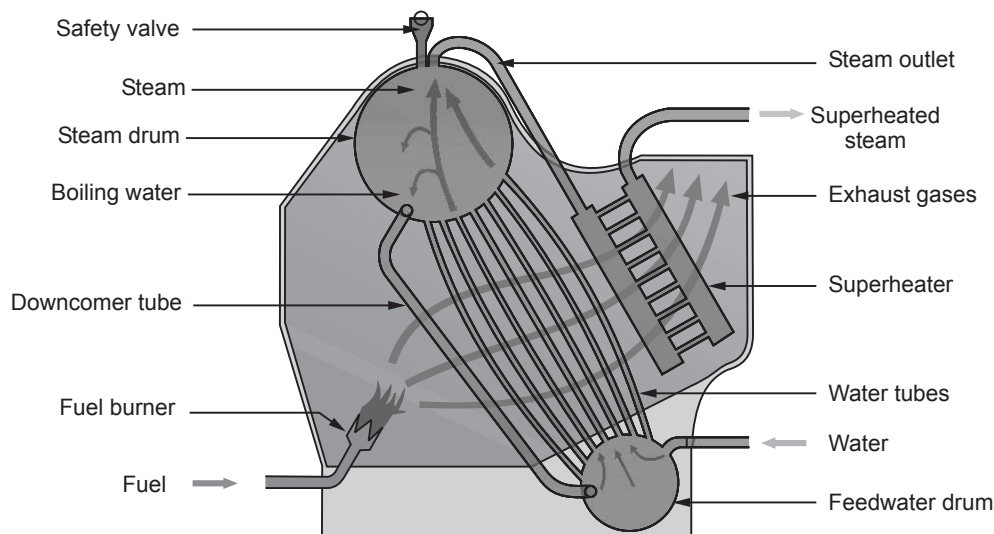

Fig. 2.2 : Water tube package boiler
- In small boilers additional generating tubes are separate in the furnace while in large boilers water filled tubes make up the walls of the furnace to generate the steam. Refer Fig. 2.2.